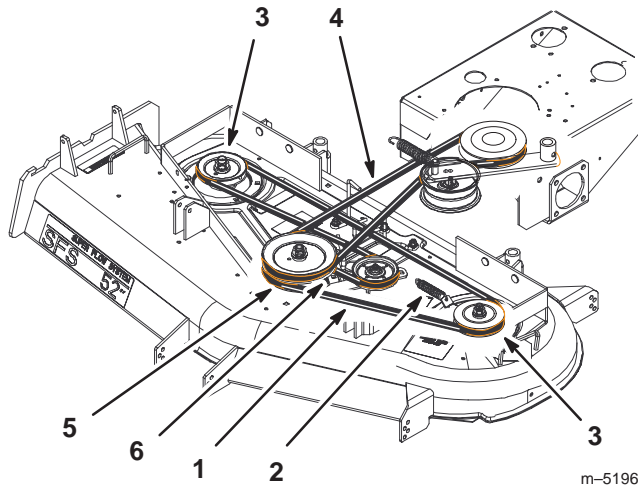

Figure 62
5. Disconnect the idler arm spring to relieve tension on the idler arm and idler pulley, then remove the worn deck belt (Fig. 62).
6. Install the new deck belt around the two outside spindle pulleys, the idler pulley, and in the lower groove of the center spindle pulley (Fig. 62).
7. Connect the idler arm spring (Fig. 62).
- Adjust deck belt guide an 1/8 in. from belt (Fig. 62).